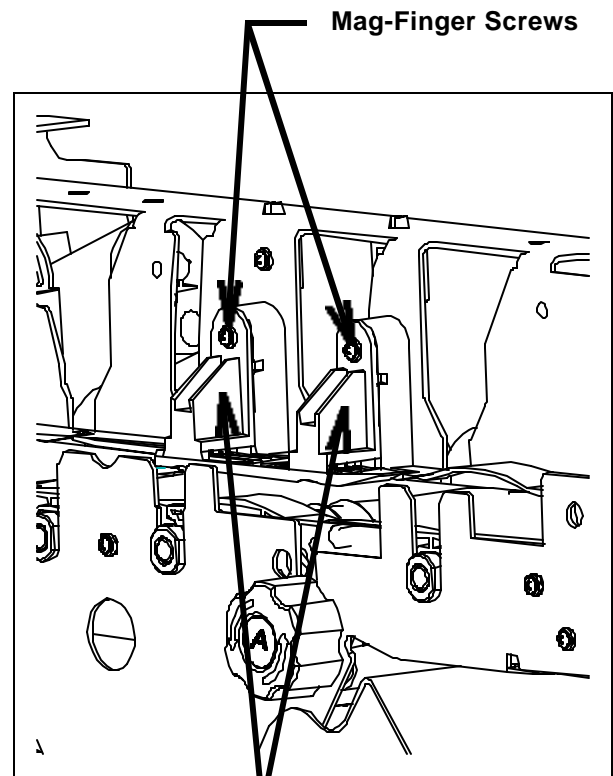

Figure 1
6. Remove (2) Mag-Finger Screws and the Mag-Finger Assembly (Figure 1).